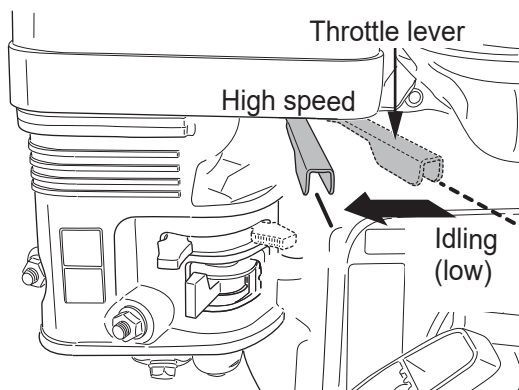

Fig.18
3. Move the throttle lever slightly to high speed side. (Fig.18)